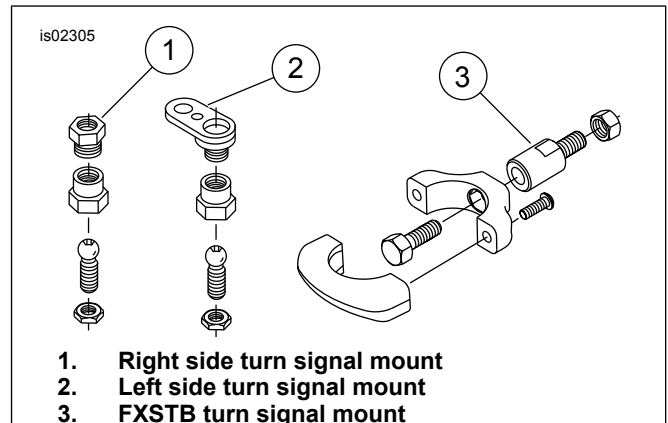

Figure 1. Remove Existing Turn Signal Mount
4. See Figure 1. Release turn signal lamp from left side of handlebar by removing the left side turn signal mount (2) (jam nut, ball stud, clamp and ball receptacle). Re-install stock lockwasher and acorn nut to secure mirror.
5. See Figure 1. Release turn signal lamp from right side of handlebar by removing the right side turn signal mount (1) (jam nut, ball stud, clamp and retainer). Install lockwasher and chrome acorn nut from kit.
**On FXSTB models only:** See Figure 1. Release turn signal lamps from fork tube by removing the existing turn signal mounts (3) (screws, clamps, standoffs and nuts).